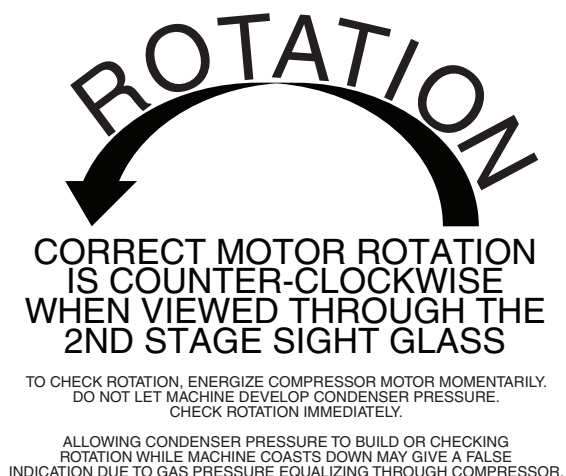

Fig. 43 — Correct Motor Rotation
5. When the VFD is energized and the motor begins to turn, check for counterclockwise motor rotation through second stage sight glasses. See Fig. 43.